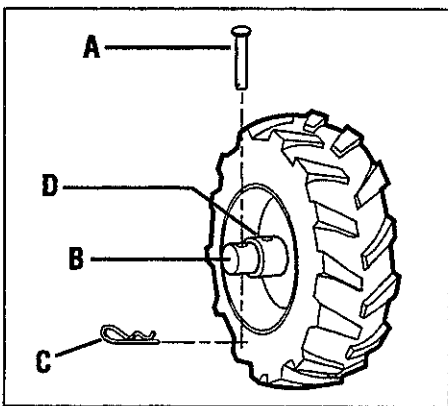

Figure 3-3: FREEWHEEL position.
5. FOR FREEWHEEL mode (Figure 3-3): Slide the wheel inward and insert the wheel drive pin (A, Figure 3-3) only through the hole in the wheel shaft (B). Install the hairpin cotter (C) on the wheel drive pin, pushing the hairpin cotter in as far as it will go. Repeat for the other wheel and remove the support from the unit.